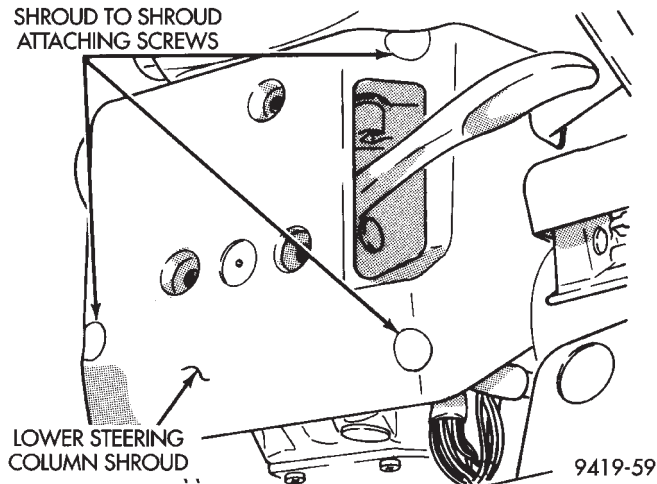
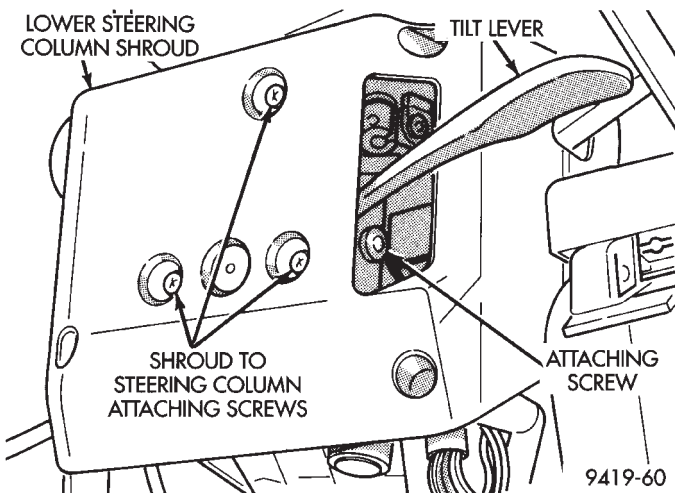

Fig. 21 Steering Column Shroud To Shroud Attaching Screws
Fig. 22 Shroud To Steering Column Attaching Screws
(23) Tilt steering column to its full up position to allow access to the shroud attaching screws. Then remove the 3 shroud to shroud attaching screws (Fig. 21).
(24) Tilt steering column to its full down position. This allows upper shroud to be removed easier thus avoiding damage to the upper shroud during removal.
(25) Remove upper steering column shroud from steering column assembly.
(26) Tilt the steering column to the full up position. Then remove the tilt lever, and the 3 lower steering column shroud to steering column attaching screws (Fig. 22).
(11) Install lower steering column assembly shroud (Fig. 22) on steering column. Install and securely tighten the 3 screws attaching lower shroud to steering column. Install tilt lever (Fig. 22) on steering column and securely tighten tilt lever attaching screw. **Be carefull not to cross thread the tilt lever attaching screw.**
(12) Tilt steering column to the full down position. Then install upper steering column shroud on steering column.
(13) Install and securely tighten the 3 screws (Fig. 21) attaching the upper shroud to the lower shroud.